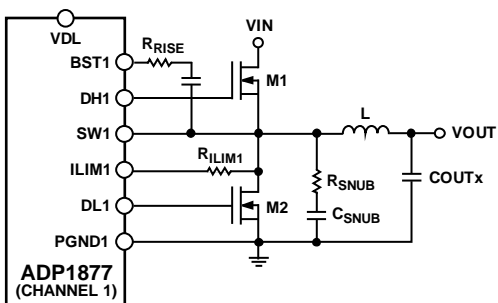

Figure 35. Application Circuit with a Snubber
In any high speed step-down regulator, high frequency noise (generally in the range of 50 MHz to 100 MHz) and voltage overshoot are always present at the gate, the switch node (SW), and the drains of the external MOSFETs. The high frequency noise and overshoot are caused by the parasitic capacitance,  $C_{GD}$ , of the external MOSFET and the parasitic inductance of the gate trace and the packages of the MOSFETs. When the high current is switched, electromagnetic interference (EMI) is generated, which can affect the operation of the surrounding circuits. To reduce voltage ringing and noise, it is required to add an RC snubber between SW and PGND for applications with more than 10 A output current, as illustrated in Figure 35. Snubbers may also be needed in applications where the duty cycle in one of the channels is higher than or equal to 50%. In most applications,  $R_{SNUB}$  is typically 2 Ω to 4 Ω, and  $C_{SNUB}$  typically 1.2 nF to 3 nF.
In most applications, a component size 0805 for  $R_{SNUB}$  is sufficient. However, the use of an RC snubber reduces the overall efficiency, generally by an amount in the range of 0.1% to 0.5%. The RC snubber cannot reduce the voltage overshoot. A resistor, shown as  $R_{RISE}$  in Figure 35, at the BSTx pin helps to reduce overshoot and is generally between 2 Ω and 4 Ω. Adding a resistor in series, typically between 2 Ω and 4 Ω, with the gate driver also helps to reduce overshoot. If a gate resistor is added, then  $R_{RISE}$  is not needed.